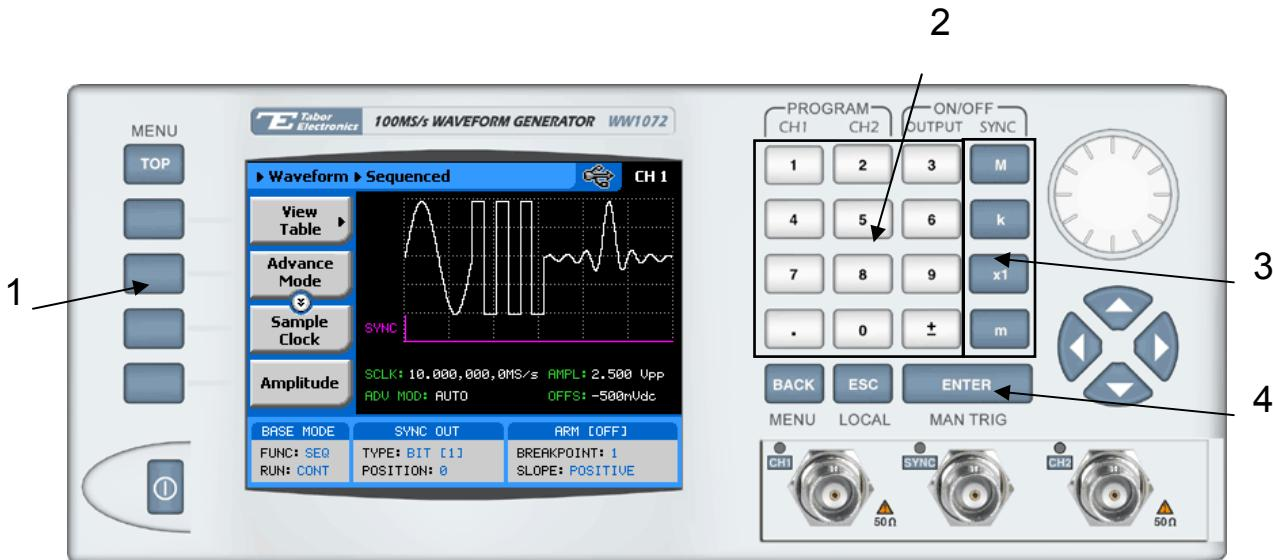
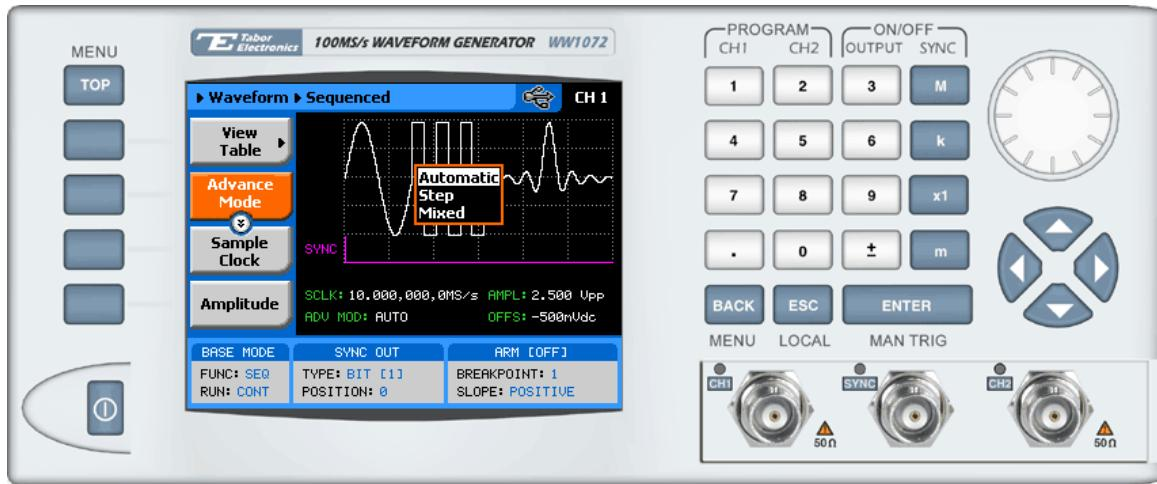

Figure 3-19, Sequence Parameters
Figure 3-21, Sequence Advance Options
Refer to Figure 3-19 and use the following description to learn how to output sequenced waveforms and how to program sequence parameters. To select Sequenced waveforms as the output waveform type press Waveforms, then Sequenced. The screen as shown in Figure 3-19 will display and the output will already generate arbitrary waveforms. Note the channel you are currently program and make sure the icon at the upper right corner agrees with your required programming sequence.
1. Refer to Figure 3-19 and select the Advance Mode with the appropriate soft key. The advance mode options, as shown in Figure 3-21 will display. Use the dial or arrow keys to scroll down to the required mode and press Enter to lock in the selected mode.
The operating mode of the instrument, as selected from the Run Modes menu, affects the way that the 1072 lets you access the sequence advance mode parameter. If you are in continuous mode, as shown in Figure 3-21, you can select one of: AUTO, STEP, or MIXED. If you already selected the triggered run mode, you'll be able to select from AUTO, or SINGLE only as advance modes.